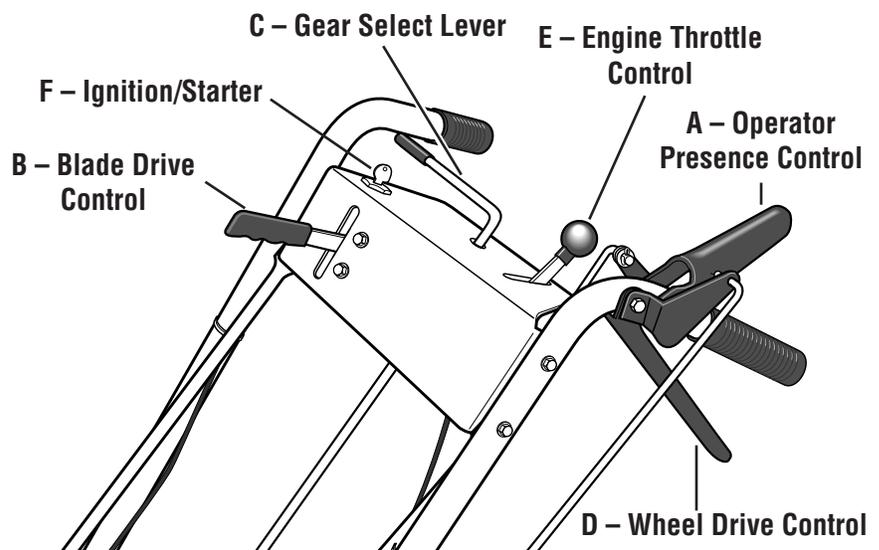

Figure 4-2: Mower Controls
The mower can be manually pushed or pulled by putting the Gear Select Lever (C, Figure 4-2) in N (neutral) and pressing and holding the Operator Presence Control (A, Figure 4-2) down against the handlebar grip.
3. Move Engine Throttle Control (E, Figure 4-2) fully upward to choke setting to start a cold engine or to fast (rabbit) setting to start a warm engine.
B. Turn ignition key (F, Figure 4-2) fully clockwise to crank engine. To avoid damage to starter motor, do not crank engine for longer than five seconds at a time. Also, allow 15 seconds between each start attempt. If engine fails to start after three attempts, repeat instructions starting with Step 2 (try setting throttle at fast setting).
2. Press and hold Operator Presence Control (A, Figure 4-2) against handlebar grip.
3. Slowly push Blade Drive Control (B, Figure 4-2) fully forward until it stays in the engaged position. The blades are now rotating.
A. Press and hold Operator Presence Control (A, Figure 4-2) against handlebar grip.
B. Put the Gear Select Lever (C, Figure 4-2) into one of the numbered settings (1 - Slow, 2 and 3 - Medium, 4 -
C. To start the wheels, slowly squeeze the Wheel Drive Control (D, Figure 4-2). The harder you squeeze, the faster the wheels will turn. To avoid sudden acceleration, slowly squeeze the lever.
A. Stop the mower blades and wheels by releasing the Operator Presence Control (A, Figure 4-2).
- C. Put the Gear Select Lever (C, Figure 4-2) in R (reverse) setting by first moving lever to N (neutral). Then pull lever up, turn it to R position, and release lever.
- D. To start the wheels, slowly squeeze Wheel Drive Control (D, Figure 4-2). To avoid sudden acceleration, slowly squeeze the lever.